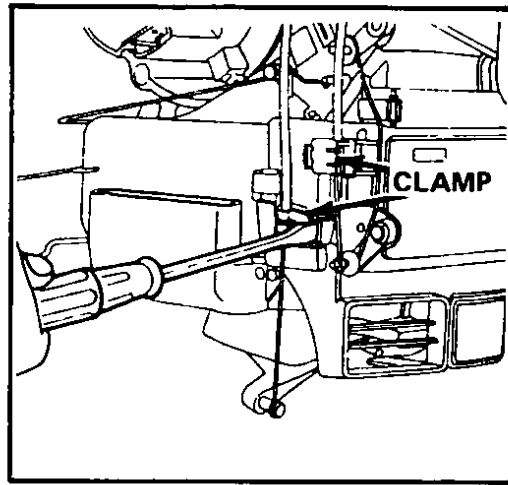

Fig 73 Removing heater control cable clamps – Model 610
- 3 Remove the heater control cable clamps from the heater assembly, Fig 73